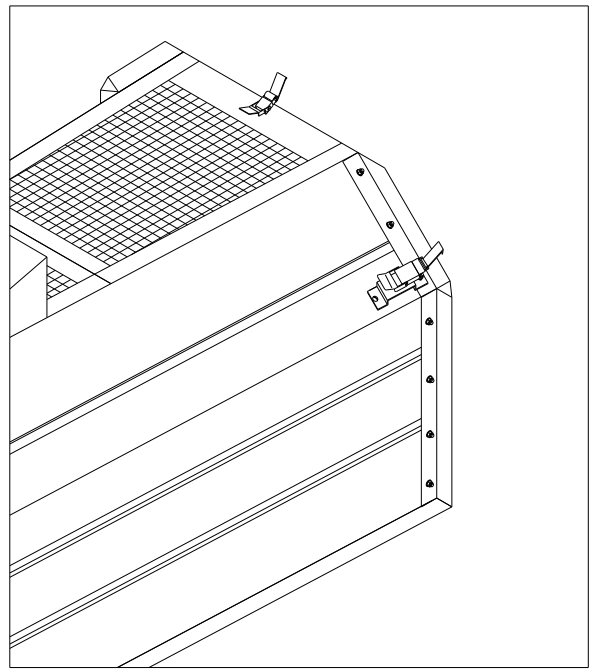

Fig. 4
5. Repeat steps 1 thru 4 on opposite side of cart. (Fig. 4)